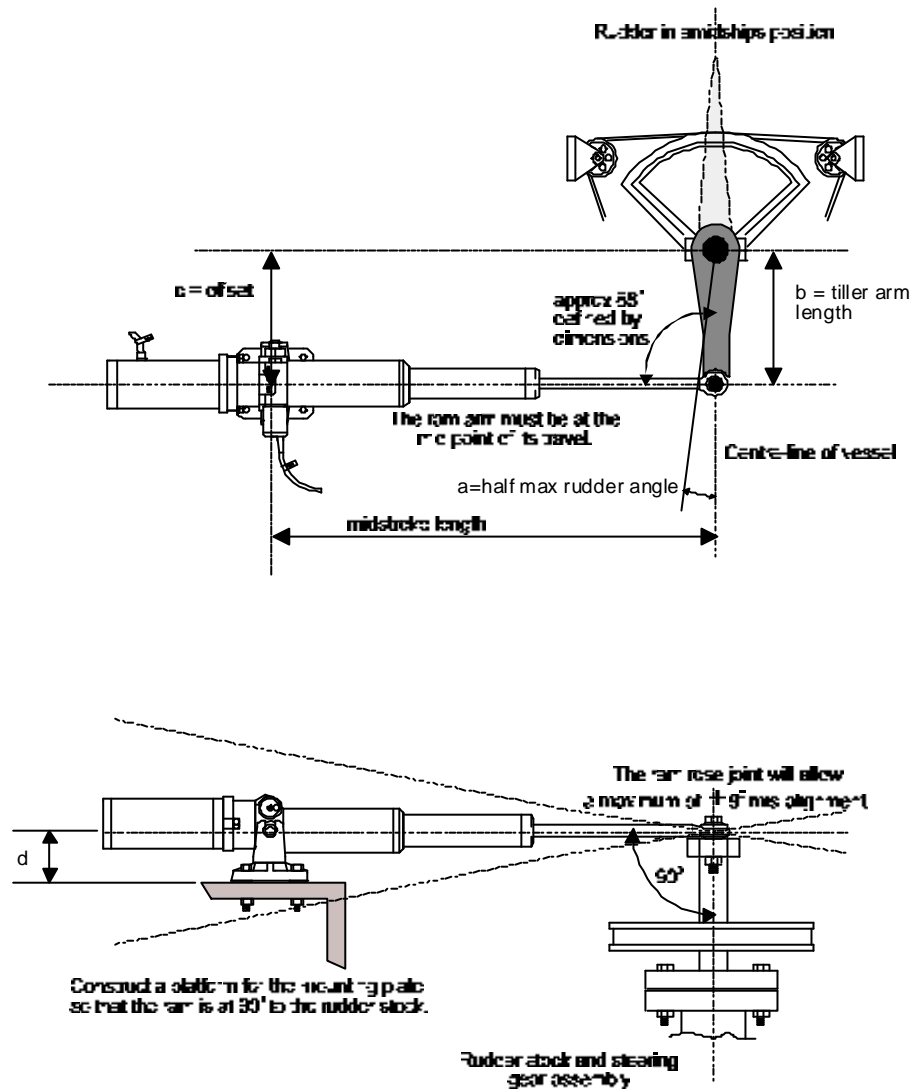

Fig 5.4 Typical Ram Drive Unit Layout
- The angle between the ram arm and the tiller arm should be as shown in Figures 5.4 and 5.5.